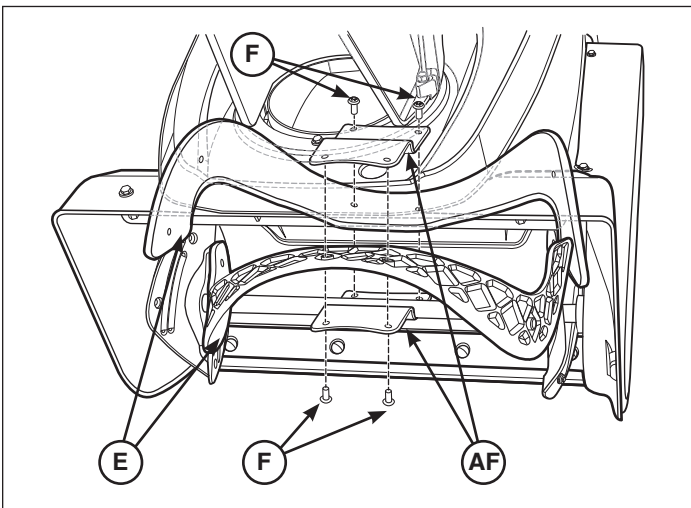

Figure 5
3. Insert two screws (**F**, Figure 5) through top side of each auger (**E**) and secure to top and bottom auger center plate (**AF**) as shown.